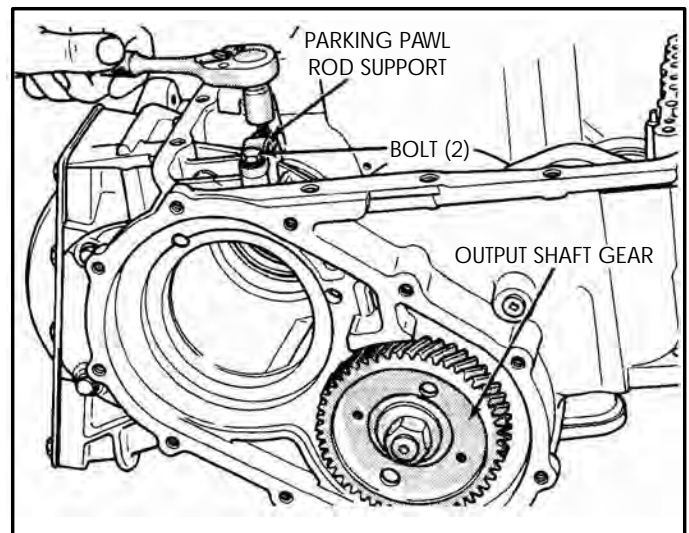

Figure 129
14. Remove the two bolts from parking pawl rod support and remove the parking pawl support from case, as shown in Figures 129 and 130.